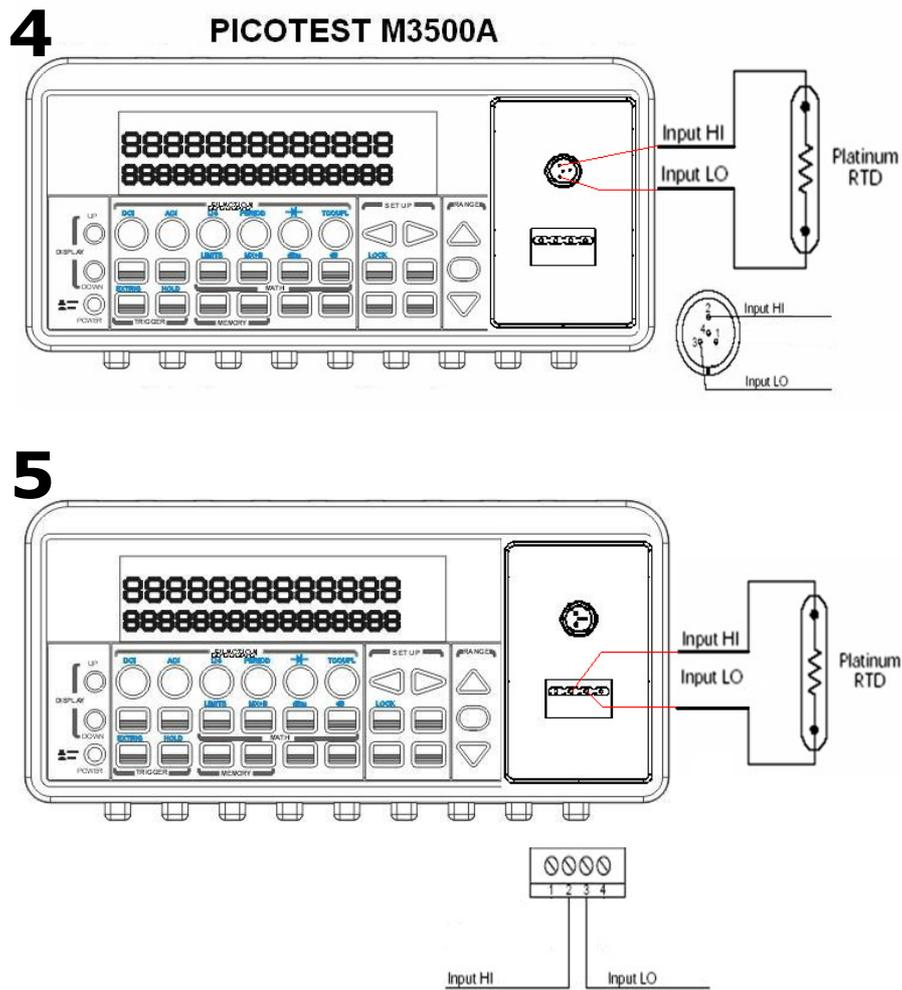

Figure 3-14
- ① Use terminals switch to select front terminals.
- ② Insert a specified adapter into the front terminals. Connect the low thermal patch leads to the adapter as shown in **Figure 3-14**.
- ③ Configure sensor type, transducer (2W) and unit using CONFIG + TEMP and \leftarrow or \rightarrow . When ready, press ENTER button. For more information, refer to the section 4.1.8.
- ④ Press TEMP button.
- ⑤ Place RTD in the desired position and take the reading on the display.